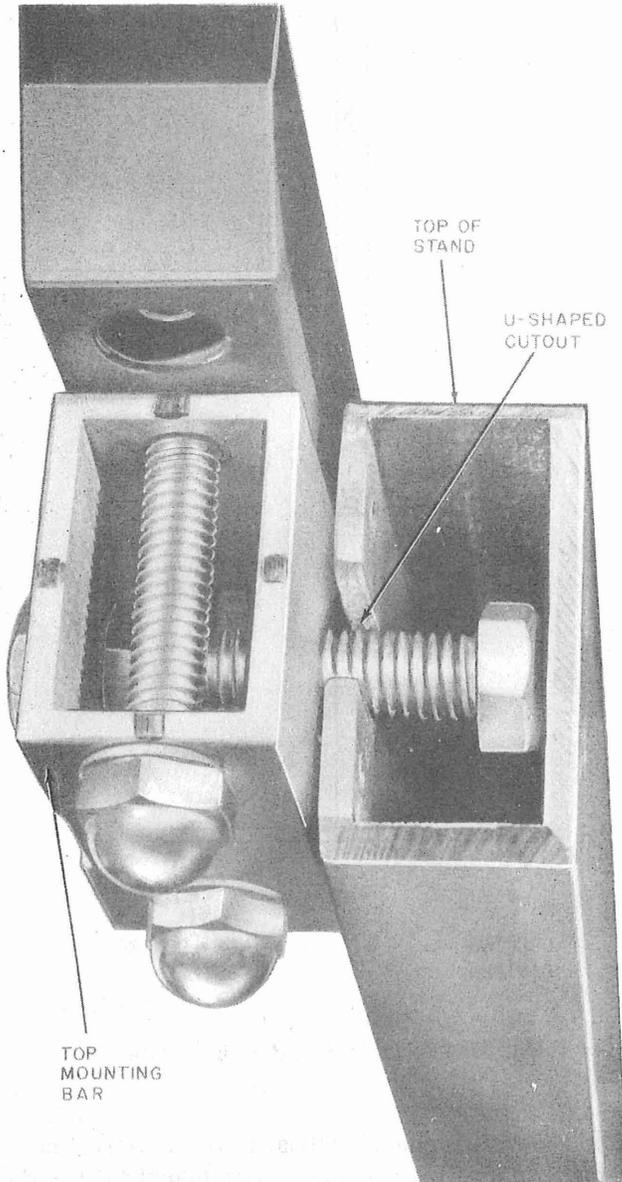

Fig. 26—Top Blackboard Mounting Detail
5.07 Slip the top mounting bolts of the blackboard into the U-shaped cutouts in the top of the stand (Fig. 26).
5.20 Carefully place the top mounting bolts of the blackboard into the U-shaped opening of the mounting bracket (Fig. 26 and 31).